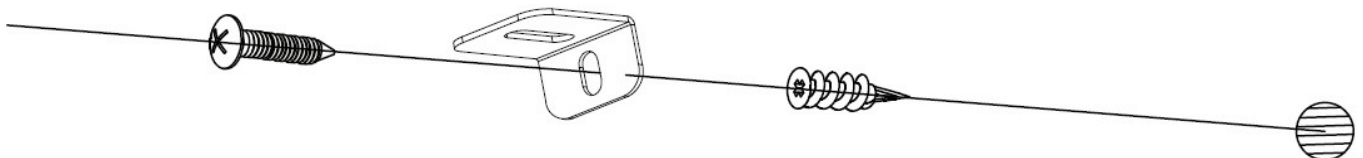

Fig 1-3
Step 3. Install the plastic anchor (B) into the drywall, then install the screw A (supplied) into the hole of the L-bracket into the wall anchor to secure the fireplace from coming off the bracket. **Fig 1-3**